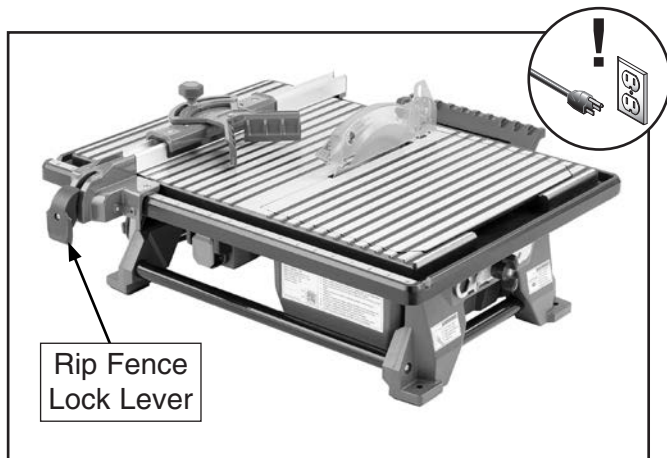

Figure 17. Rip fence lock location.
2. Secure rip fence position with rip fence lock lever (see **Figure 17**).